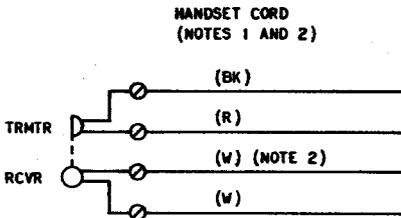

Fig. 11D—Handset Cord Replacement
obtain the red and black leads at the transmitter end of the handle (Fig. 11D).
(3) Retrieve the two white (receiver leads) lead loops and pull free (Fig. 11D). Hold the free end of these leads and retract the cord to